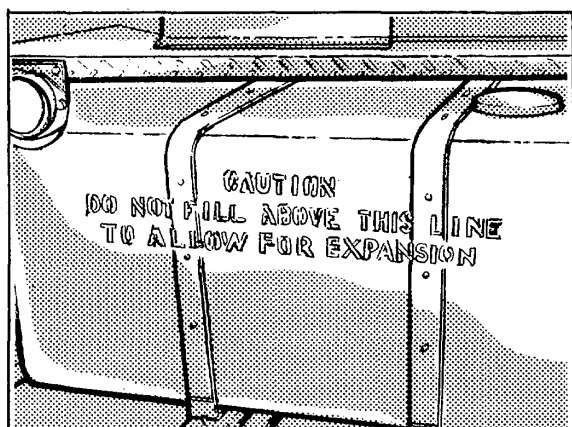

Figure 20. Fuel tank markings.
(1) If the fuel tank filler cap is a relief valve type, but does not bear a warning decal reading "Pressurized: Open Slowly," the warning note "Pressure: Open Slowly" will be marked in 1-inch lusterless black letters on the fuel tank near the filler pipe.
(2) On fuel tanks, where a mark would be readily visible, measure 2 inches down from the top of the tank and mark a 1/4 x 8-inch line, with the following note in 1-inch lusterless black letters: "Caution: Do Not Fill Above Line to Allow For Expansion," Figure 20.
(3) On vehicles where a mark on the fuel tank would not be readily visible, mark the following note in 1-inch lusterless black letters as near as possible to the filler pipes: "Caution: Do not Overfill--Allow for Expansion."